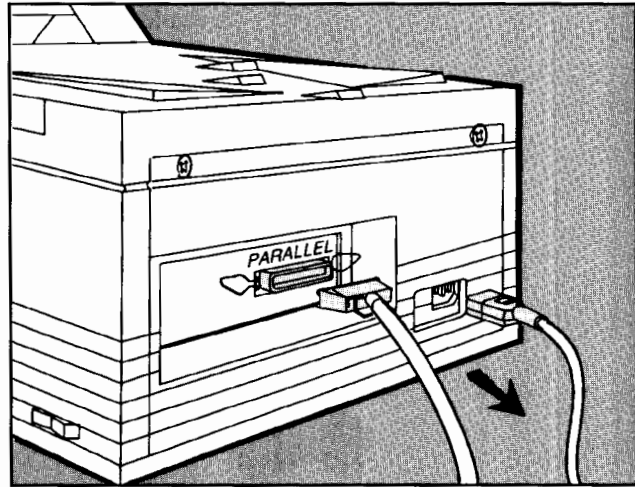

Figure F-2. Removing Cables
3. Turn off the printer and unplug the power cord (see figure F-2). Disconnect the parallel printer interface cable from the rear of the printer.